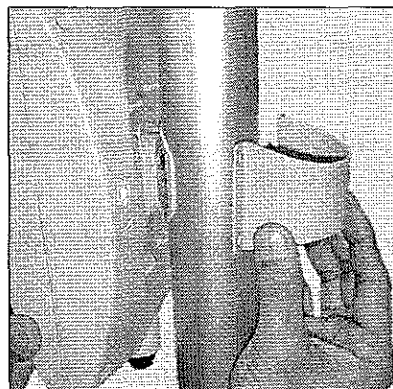

Figure 5-28a: Uninstalling the EDA
2. Remove the four Phillips screws securing the bracket to the EDA. Hold onto the EDA and remove the bracket (see Figure 5-28a).
7. Mount the EDA module to the Injector Mounting Arm or pole using the module bracket and 4 Phillips screws (see Figure 5-28a).